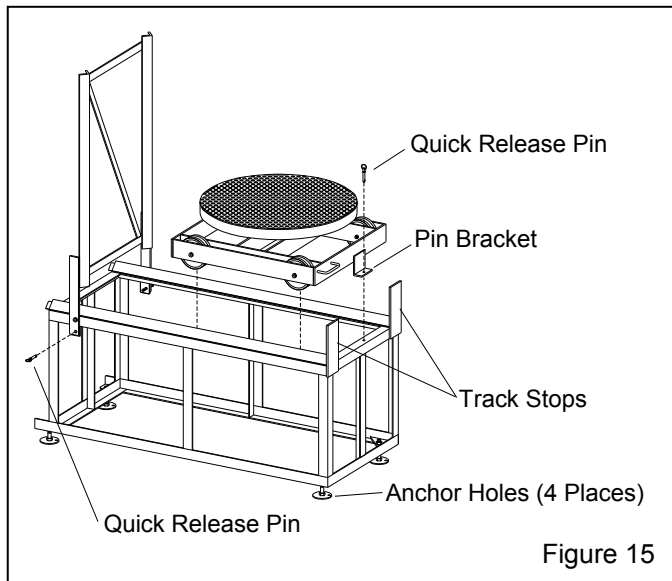

Figure 15
3.5.5 Turntable workcar and hinge track operations, refer to Figure 15